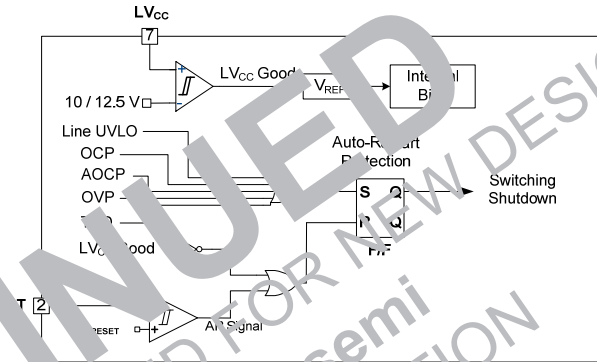

Figure 24. Protection Blocks
**5. Protection Circuits:** The FSFR-HS series has several self-protective functions; such as Over-Current Protection (OCP), Abnormal Over-Current Protection (AOCP), Over-Voltage Protection (OVP), Thermal Shutdown (TSD), and Line Under-Voltage Lockout (LUVLO or Brownout). These protections are Auto-Restart Mode protections, as shown in Figure 24.